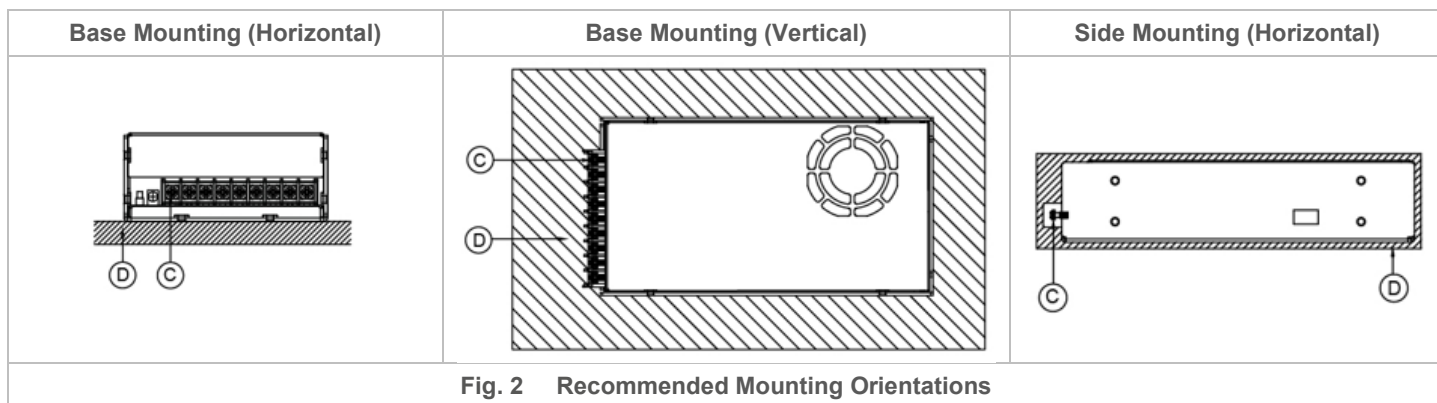

Fig. 2 Recommended Mounting Orientations
- Ⓐ Side Mounting: Fig. 2 and Fig. 3 show the mounting hole locations for power supply assembly onto a metal mounting surface. The power supply shall be mounted on minimum of 4 mounting holes using M4 screw maximum 5 mm (0.20 inch) length (Refer to Fig. 4). This is to maintain a safety distance between the screw and internal components.
- Ⓑ Base Mounting: Fig. 2 and Fig. 3 show the mounting hole locations for power supply assembly onto a metal mounting surface. The power supply shall be mounted on minimum of 4 mounting holes using M4 screw maximum 4 mm (0.16 inch) length (Refer to Fig. 4).